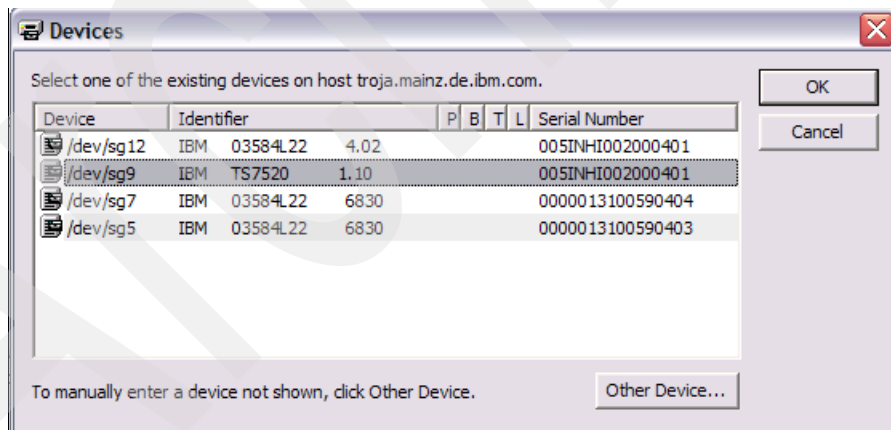

Figure 10-16 Change device file for the library
2. On the *Change Tape Drive* panel (see Figure 10-16 on page 339) we enable only the device path for `/dev/nst4`. In addition we change the default *Drive name* to a drive name which fits to our naming convention. We choose for the drive name `DrvVirtual_1`.